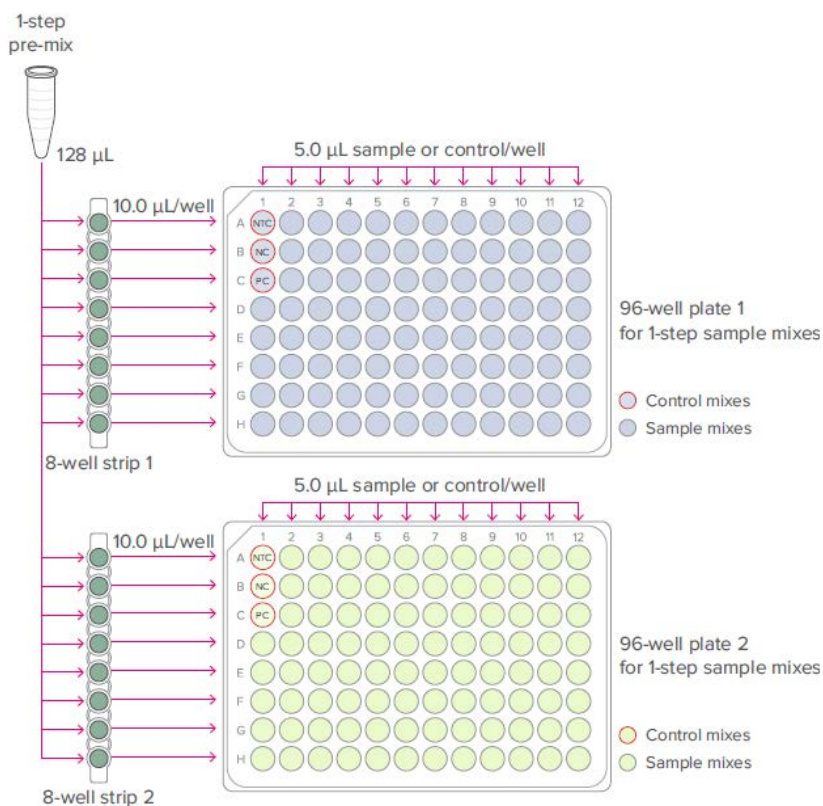

Figure 1. 1-step reaction plates (per-well transfer volumes)
- 5 Using an 8-channel pipette, combine the 1-step pre-mix and the samples or controls in 2 new 96-well plates as shown in Figure 1.
- b Next, add 5.0 μL of each control into wells A1 (NTC), B1 (NC), and C1 (PC) of each plate.